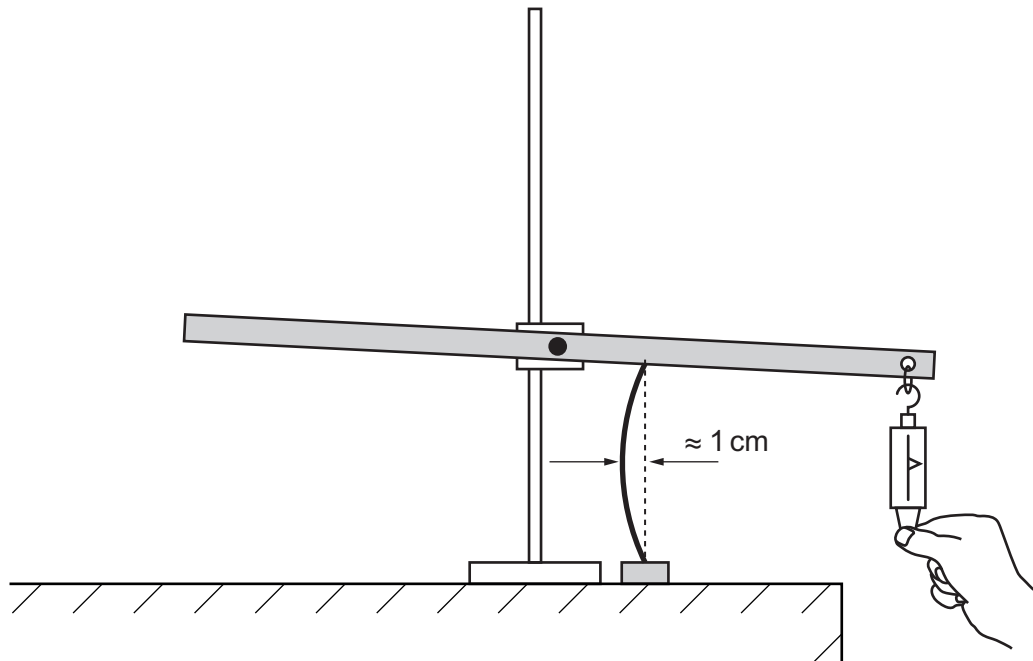

Fig. 2.2
- (c) • Slowly pull the newton meter down until the rod bends in the middle by approximately 1 cm, as shown in Fig. 2.2.